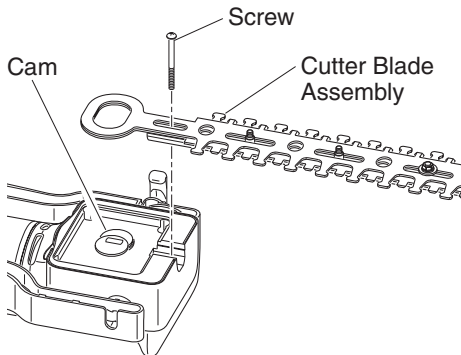

Figure 19 - Removing Cutter Blade Assembly
5. Remove screw that holds down cutter blade assembly (see Figure 19).